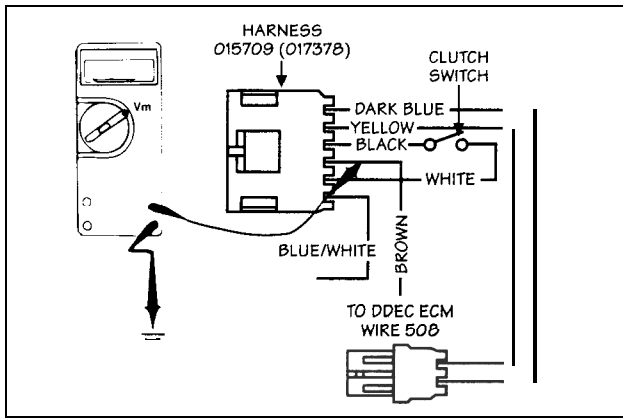

FIG. 1.1.25
**Correction:** Disconnect 015709 (017378) harness from 017179 module. Start the engine. Turn the engine brake switch OFF. Place the positive probe of the voltmeter at the terminal of the BROWN wire and the negative probe on ground (Fig. 1.1.25). Increase engine RPM to rated engine speed. The voltmeter should measure +12 VDC. Release throttle; voltage should drop to 0 VDC. When the engine reaches idle, the voltage should again read +12 VDC. If the voltage does not change, check connections and wiring. If problem continues, have the engine ECM checked.